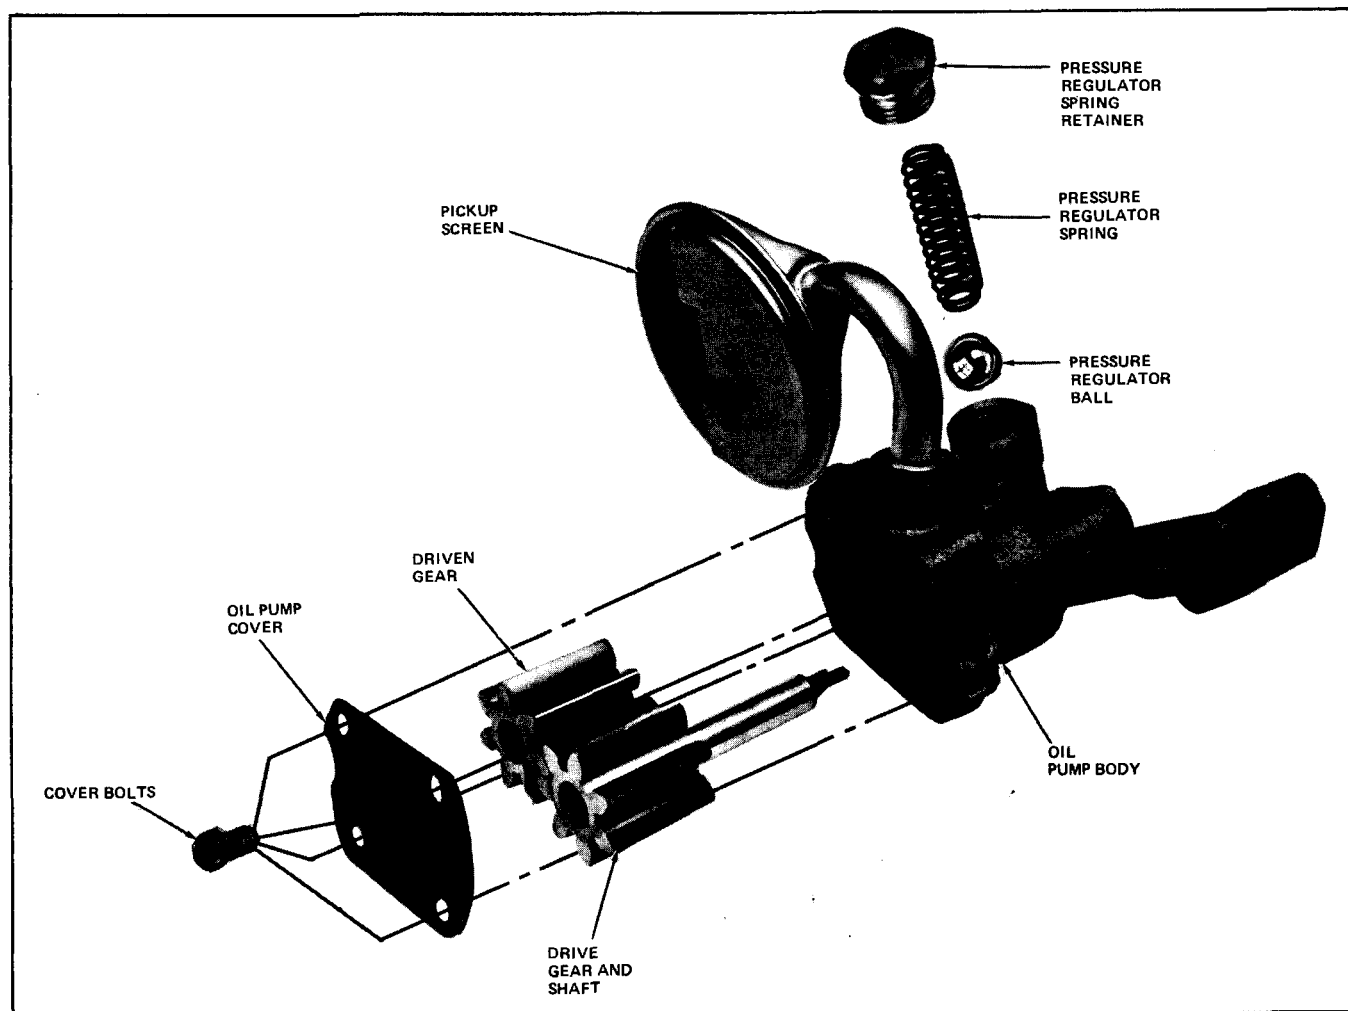

Fig. 6-139 Oil Pump-Exploded View (All Except 307 Engine)
5. Inspect pump gears and end of drive gear shaft for wear (Fig. 6-139 and 6-140).
2. Inspect pressure regulator spring (Figs. 6-139 and 6-140) for distortion, cracks, and wear on sides.